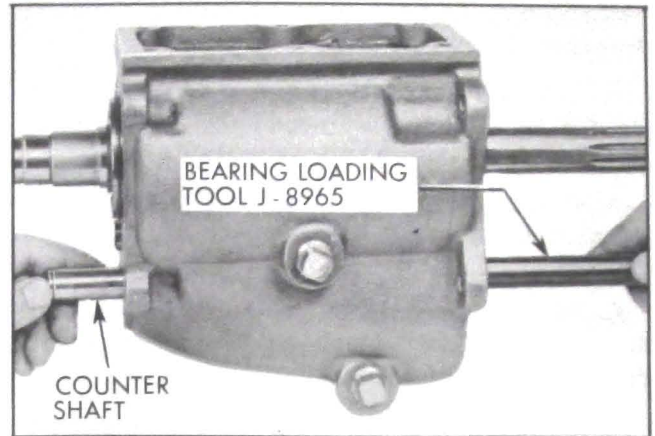

Figure 4-15—Installing Loading Tool J-8965
6. Drive countershaft rearward with a brass drift until shaft is just free in front shaft bore of case. Using Bearing Loading Tool J-8965, push out countershaft, making sure loading tool is tight behind countershaft at all times. Allow countergear to drop to bottom of housing with loading tool in place to keep bearing rollers and thrust washers intact. See Figure 4-15.